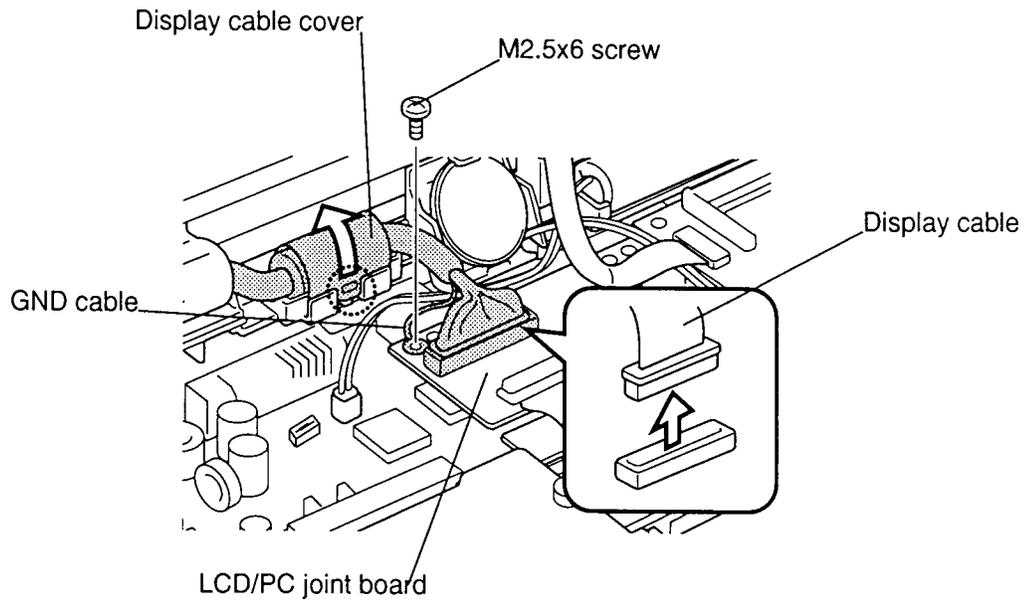

Figure 4-22 *Disconnecting the display cable*
5. Remove the left side M2.5x6 screw on the **LCD/PC card joint board** (figure 4-22).
6. Lift the **display cable cover** and disconnect the **display cable** from the connector on the LCD/PC card joint board (figure 4-22).